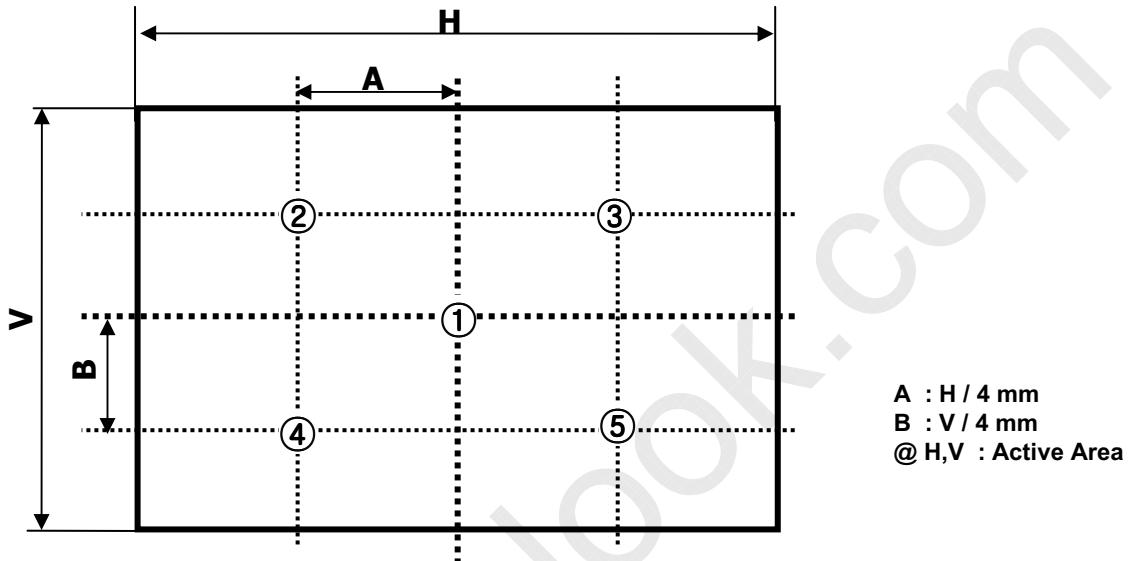

FIG. 10 5 Points for Luminance Measure
2. Surface luminance is determined after the unit has been 'ON' and 1Hour after lighting the backlight in a dark environment at 25±2°C. Surface luminance is the luminance value at center 1-point across the LCD surface 50cm from the surface with all pixels displaying white. For more information see the FIG. 10.
For more information, see the FIG. 10.